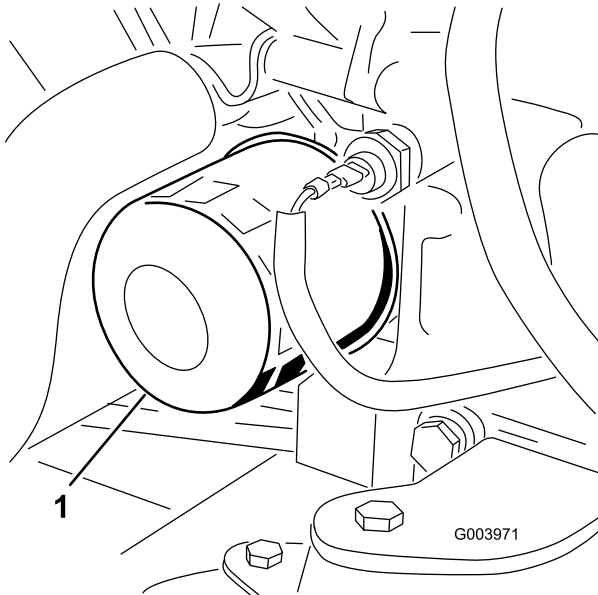

Figure 41
- Remove the oil filter (Figure 41).